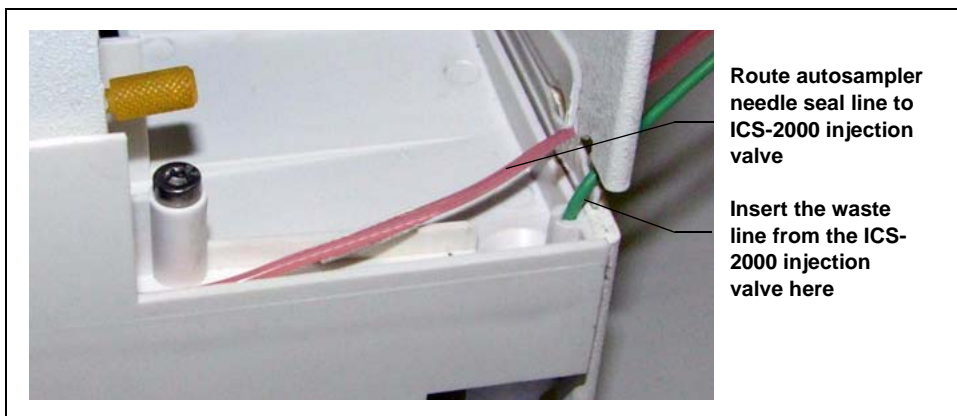

Figure 104. Autosampler Drip Tray
3. The needle seal line that extends from the inject port in the autosampler is coiled inside the autosampler door, on the right side. Route this line through the autosampler right side slot (see Figure 104) and the ICS-2000 left side slot to the ICS-2000 injection valve.
6. Push the end of the green **AS/AS50 TRAY** line into the small round opening on the right side of the AS or AS50 (USB) tray (see Figure 104).